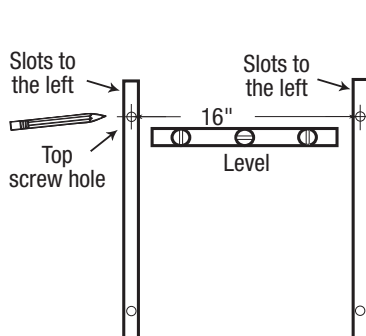

Figure 1
**Step 2:** Mark the location of the top screw hole of the right standard 16" to the right of the first mark. Use a level to ensure the standards will be the same height **Figure 1**.